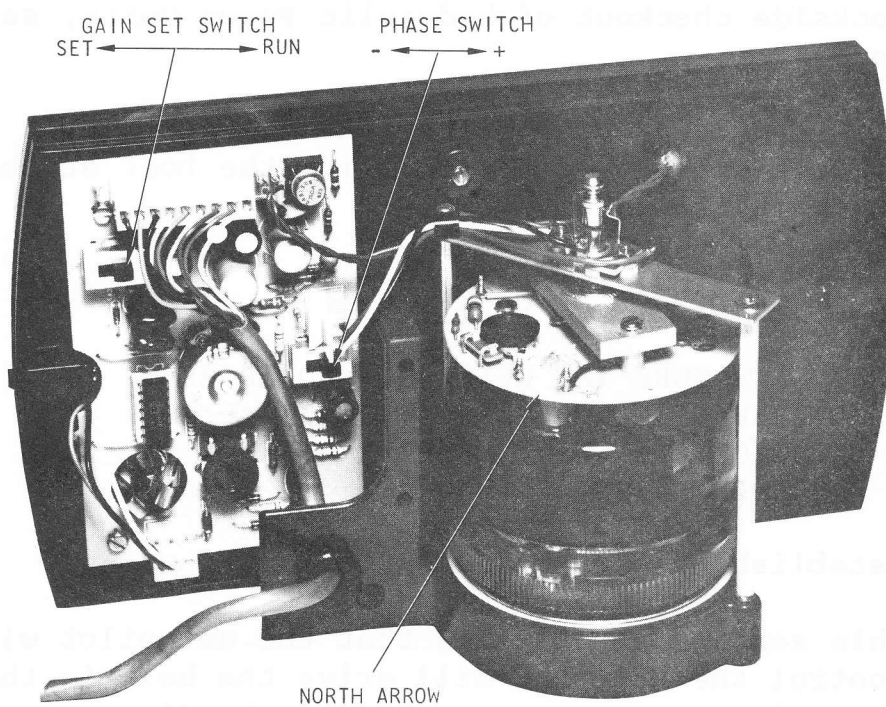

Figure 5-4
Remove the PHC front panel from its case. Refer to Figure 5-4. Use the Course Dial to rotate the compass so that when the PHC panel is replaced,
1. Remove the PHC partially from its case in order to allow access to the Gain Set slide switch. See Figure 5-4.
Remove the PHC front panel from its case. Refer to Figure 5-4. Use the Course Dial to rotate the compass so that when the PHC panel is replaced, the arrow on top of the compass will point north. Move the Gain Set slide switch to the SET position.